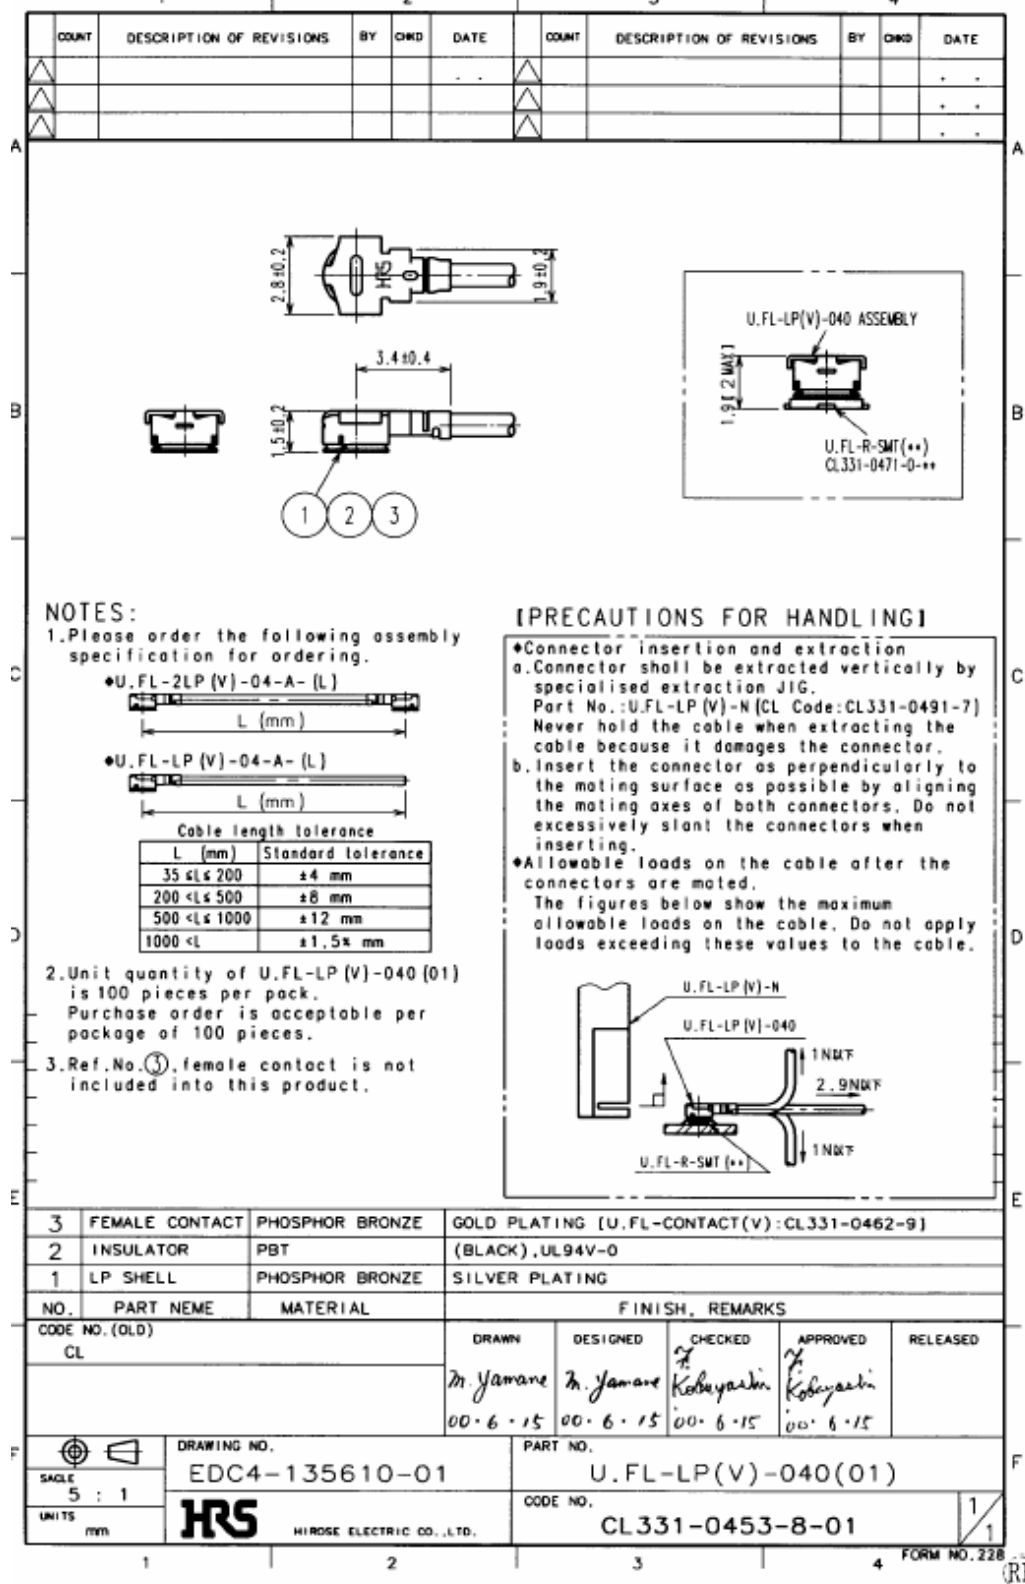

Figure 35: Specifications of U.FL-LP-(V)-040(01) plug
In addition to the connectors illustrated above, the U.FL-LP-(V)-040(01) version is offered as an extremely space saving solution. This plug is intended for use with extra fine cable (up to $\varnothing 0.81$ mm) and minimizes the mating height to 2 mm. See Figure 35 which shows the Hirose datasheet.